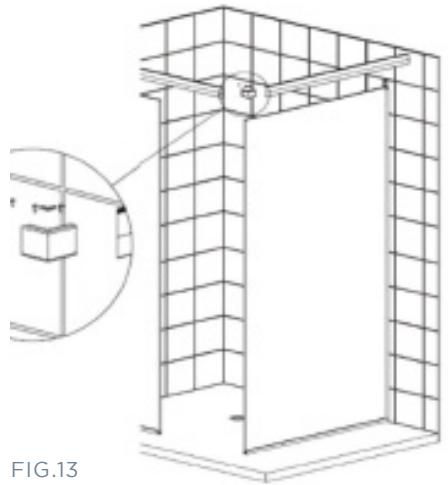

FIG.13
- With corner showers, use the grey corner block in the mitred corner (FIG 13) to support the join. This should press into the mitred corner, and be a tight snug fit.